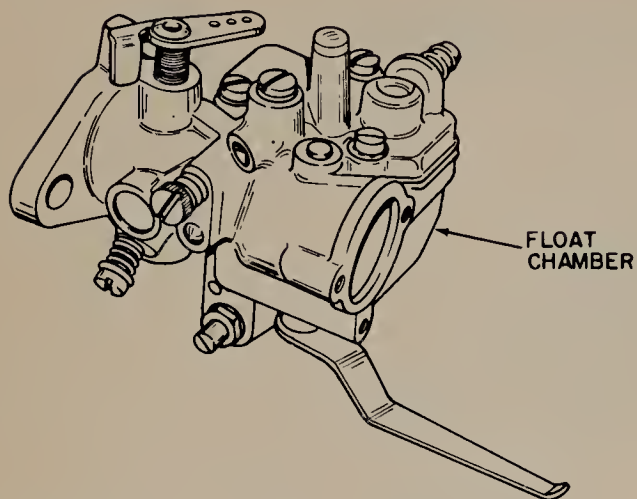
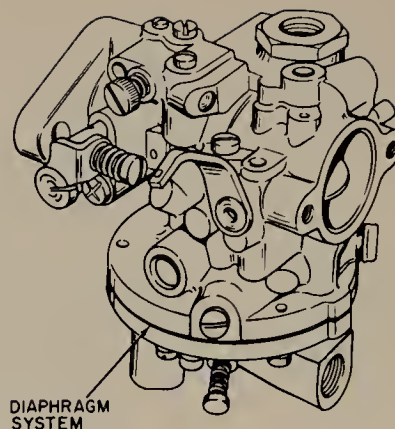

FIGURE 15.19 Carburetor for a small engine. (Tecumseh Products Company.)
FIGURE 15.20 Diaphragm carburetor for a power saw. (Tecumseh Products Company.)
15.16 Tecumseh Carburetor Service. Two models of carburetors used on Tecumseh small engines (Lauson and Power Products) are shown in Figs. 15.19 and 15.20. The diaphragm carburetor (Fig. 15.20) is used on power saws where the carburetor must work regardless of the position in which it is operating. Figures 15.21 to 15.23 illustrate the operation of this carburetor during choking when the engine is started, when the engine is idling, and when the engine is operating at high speed.